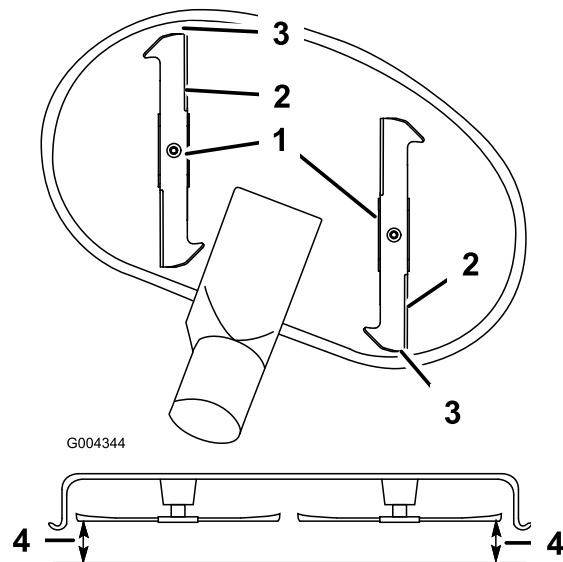

Figure 54
9. Set the height-of-cut at position **D** [3 inch (76 mm)] and carefully rotate the blades so they are facing front to rear (Figure 54).
10. Measure from the tip of the front blade to the flat surface and the tip of the rear blade to the flat surface (Figure 54). If the front blade tip is not 1/16-5/16 inch (1.6-7.9 mm) lower than the rear blade tip, adjust the front locknuts.